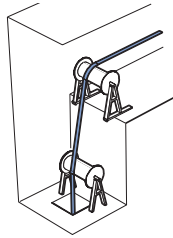

Fig 1.20
- 1.4.2.2 The examples of a double well-head roller installation are illustrated in Figs.1.20 and 1.21.